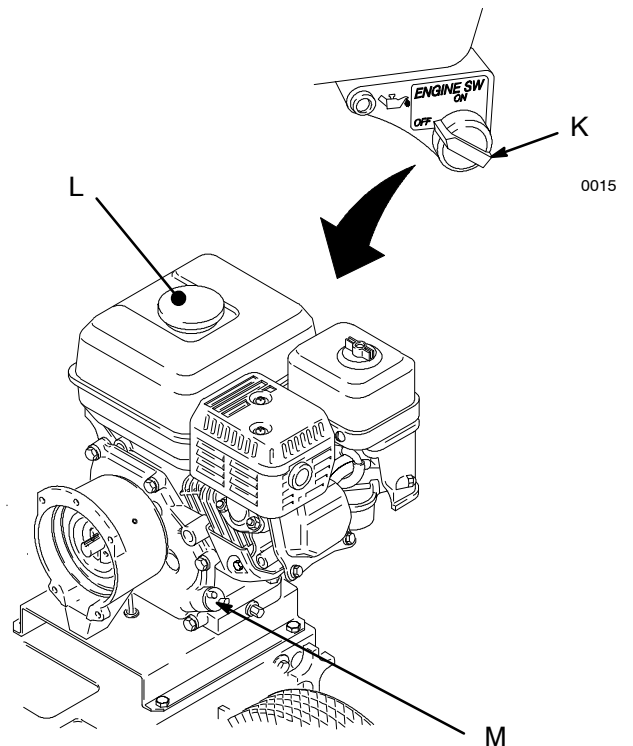

Fig. 3
3. **Check the engine oil level.** Refer to the Honda engine manual, supplied. This is a summary of the information: Remove one of the oil fill plugs (M); the oil should be almost overflowing. See Fig. 3. Add oil as necessary.
Always turn the engine switch (K) to off before refueling. (Fig. 3)
Do not overfill the tank. Make sure the gas fill cap (L) is securely closed after refueling. (Fig. 3)
5. **Shut off and cool the engine before refueling (Fig 3).**